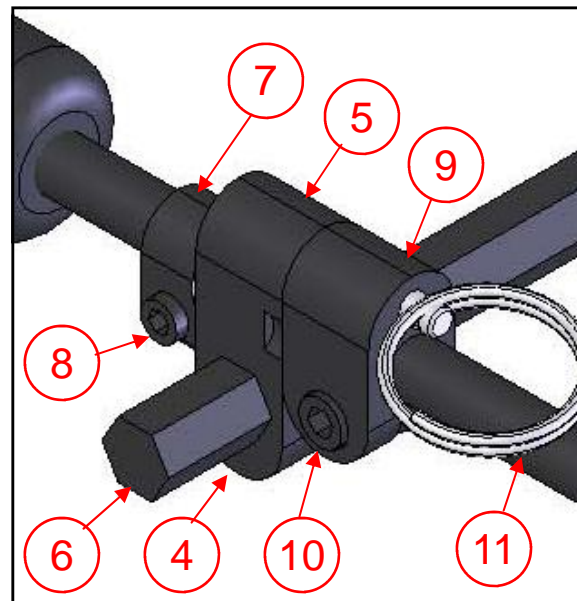

Figure 24C
1. Height: Loosen the Allen screw on the bracket (3). Slide the shoulder pads to the desired position, and retighten the screw.
2. Width: (Refer to Figure 24C) Loosen the set screw (4) on the bottom of the pivot pin receiver (5). Slide the receiver along the hex cross bar (6) to the desired width. Tighten the set screw. Repeat on opposite side.
3. Depth: (Refer to Figure 24C) Loosen the bar clamp (7) by loosening the Allen screw (8) on the side. Loosen the lock pin block (9) by loosening the Allen screw (10) on the side. Slide the shoulder pad back/forth to the depth which provides the appropriate amount of anterior support. Align the lock pin block (9), with the plunger pin (which is inside